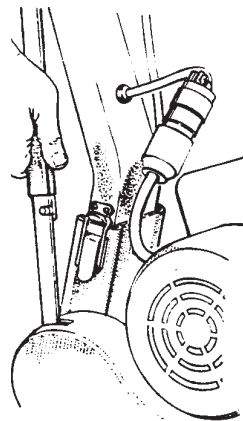

Figure 2
- 2 Slide collar beyond overlap of control link; remove pin from notch. (Figure 2)
- 4 Release handle latches and remove handle from chassis. (Figure 2)